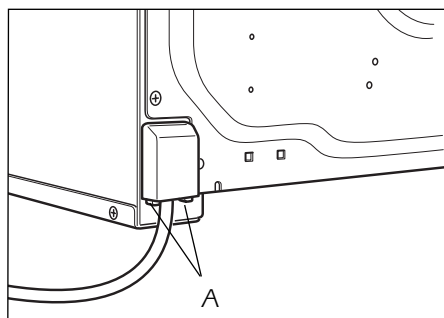

Figure 5
- *Unhook the terminal board cover by inserting a screwdriver into the two hooks "A" (fig. 5).*